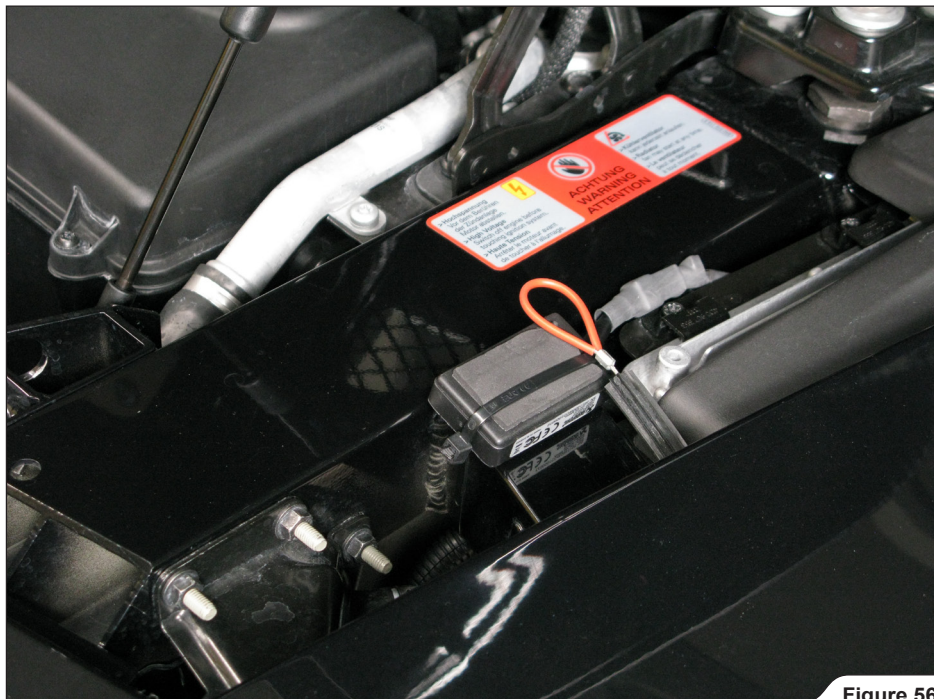

Figure 56
17. **For optional wireless kit only:** attach the transmitter onto the chassis, using 360mm tie wrap from installation kit (**Figure 56**).